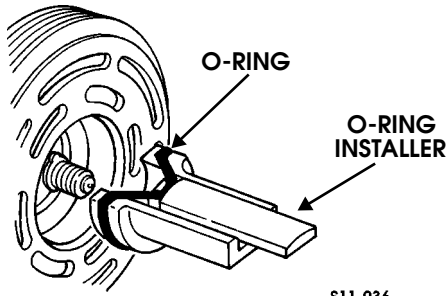

Figure 11-67: O-Ring Installer
1. Dip new seal seat O-ring in clean PAG oil and install onto O-ring installer (Figure 11-67).